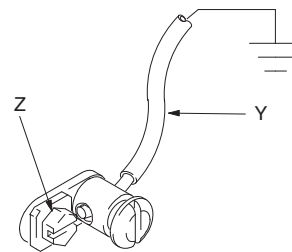

FIG. 1
**Pump:** Use a ground wire and clamp as shown in FIG. 1.